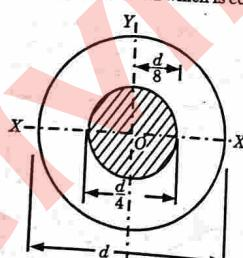

Fig. 4.20.1.
1. Consider a circular section of diameter 'd' as shown in Fig. 4.20.1.
11. Thus, if the line of action of the load is within a circle of diameter equal to one-fourth of the main circle as shown in Fig. 4.20.1 then the stress will be compressive throughout the circular section.